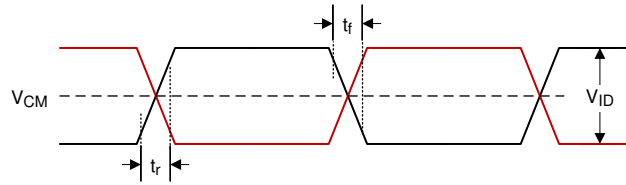

图 6-5. LVDS Waveform Requirements
- (12) See 图 6-5 LVDS Waveform Requirements.
- (13) Supported for video applications only
- (14) Simultaneous exposure of the DMD to the maximum 节 6.4 for temperature and UV illumination will reduce device lifetime.
(2) See Figure 6-5 for Timing Requirements for LVDS.
(3) Channel A (Bus A) includes the following LVDS pairs: DCLK_AN and DCLK_AP, SCTRL_AN and SCTRL_AP, D_AN(15:0) and D_AP(15:0).
(4) Channel B (Bus B) includes the following LVDS pairs: DCLK_BN and DCLK_BP, SCTRL_BN and SCTRL_BP, D_BN(15:0) and D_BP(15:0).
(5) Channel C (Bus C) includes the following LVDS pairs: DCLK_CN and DCLK_CP, SCTRL_CN and SCTRL_CP, D_CN(15:0) and D_CP(15:0).
(6) Channel D (Bus D) includes the following LVDS pairs: DCLK_DN and DCLK_DP, SCTRL_DN and SCTRL_DP, D_DN(15:0) and D_DP(15:0).